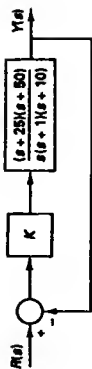

Figure 1
1. Consider the system shown in Figure 1. Determine the range of values of K for which the system is stable.